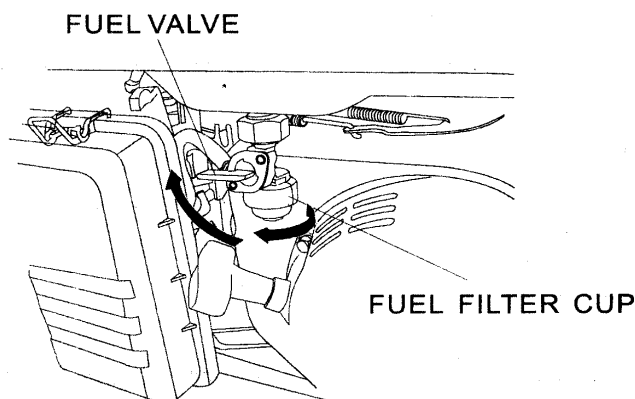

Figure 19 –Removing the Fuel Filter Cup
2. Unscrew the fuel filter cup from the fuel valve using a wrench. Turn the valve toward you to unscrew (see figure 19).